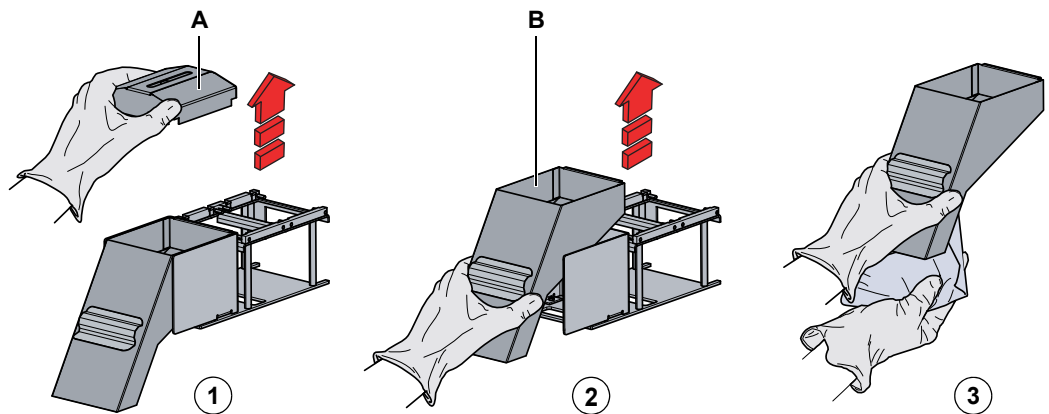

Fig. 7-16 Removing the DiTi waste and slide
1 Remove the DiTi waste cover (A) Fig. 7-16 , 7-27.
2 Remove the DiTi waste slide (B) Fig. 7-16 , 7-27.